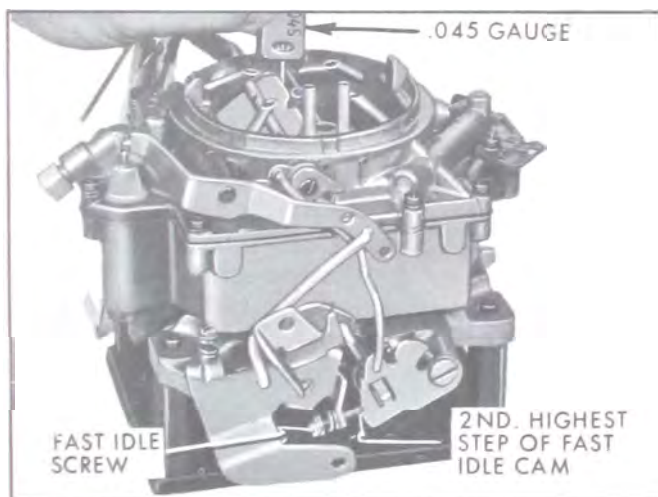

Figure 3-52—Checking Fast Idle Cam Adjustment
1. Fast Idle Cam Adjustment. Close throttle so that fast idle screw contacts second highest step of fast idle cam with side of screw against rise to high step of cam, then check clearance between choke valve and air horn dividing wall, using .045" Gauge (No. 55 drill). See Figure 3-52.